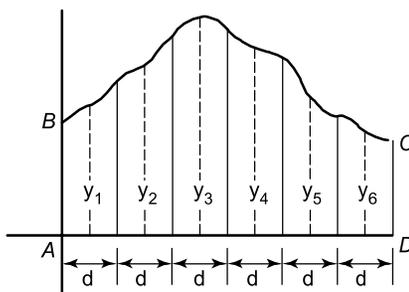

Figure 15.3
To determine the area $ABCD$ of Figure 15.3 using the mid-ordinate rule:
- (ii) Erect ordinates in the middle of each interval (shown by broken lines in Figure 15.3)